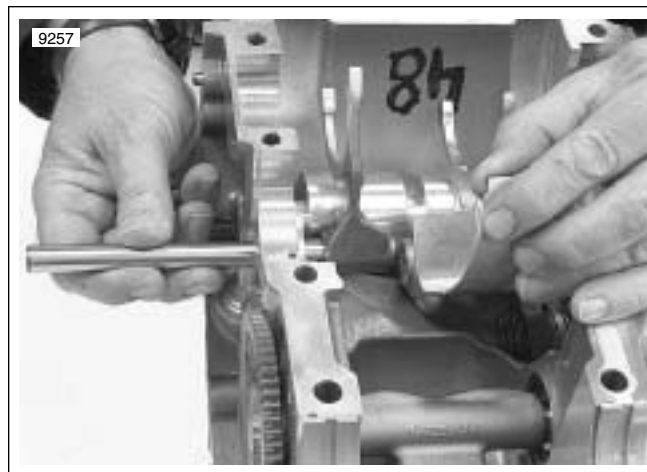

Figure 3-129. Shifter Fork Shaft Installation
2. See Figure 3-129. Insert shifter fork shaft through engine case and slide shifter forks in position.